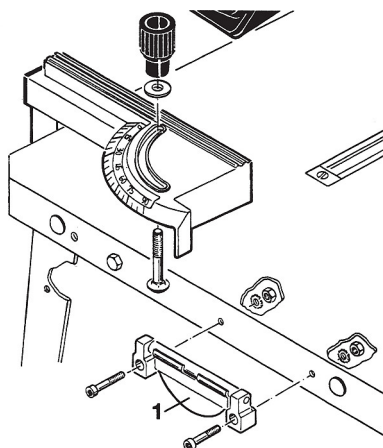

Fig. 10: Mounting the clamping device longitudinal stop
Step 10: Mount the clamping device (Pos.1, Fig. 10) for the longitudinal stop to the table top using two cylinder screws M6x30, two washers and two nuts M6.